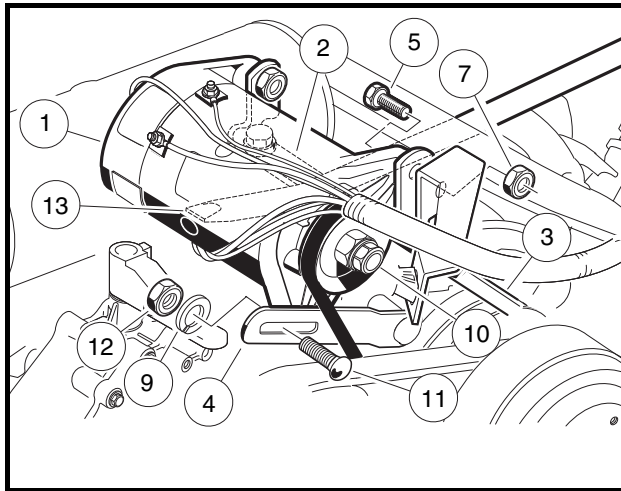
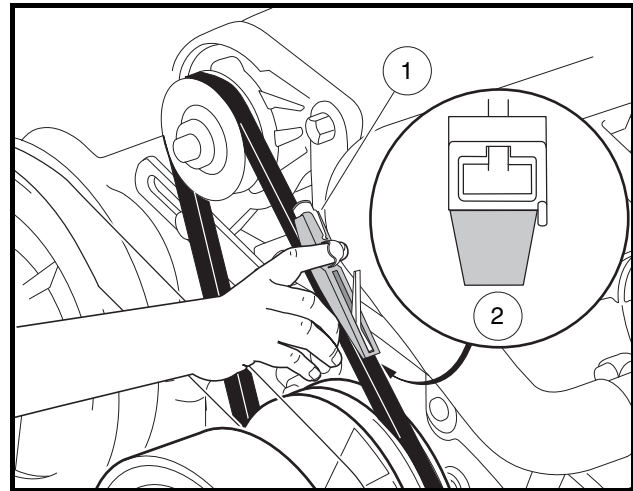

Figure 12-27 Starter/Generator Installation
Figure 12-28 Belt Tension Gauge
2. Install two 3/8-inch hex-head pivot bolts (5) into the mounting bracket with the heads of the bolts facing toward the driver-side of the vehicle. Position the starter/generator in the mounting bracket so that the bolts will go through the starter/generator before going through the bracket. Install a lock nut (7) onto each bolt. Tighten to finger tight (**Figure 12-27, Page 12-20**).
3. Install the adjustment bolt (11) through the adjusting bracket (4) and then through the starter/generator. Install a lock washer (9) and 5/16-inch nut (12) onto the end of the adjustment bolt (11). Tighten to finger tight.
4. Install the belt (3), then tighten the mounting bolts. **See Belt Tension Adjustment on page 12-20.**
3. Make sure the two pivot bolts (5) on the mounting bracket are finger tight. The carriage bolt (11) and hex nut (12) are to be finger tight also (**Figure 12-27, Page 12-20**).
4. Push the starter/generator down so it is at the lowest point of its adjustment travel. With the starter/generator belt in place around the drive clutch pulley, install the starter/generator belt (3) around the pulley (10) on the end of the starter/generator.
5. Position a pry bar (13) between the top of the starter/generator mounting bracket (2) and the underside of the starter/generator by passing the pry bar under the exhaust header.
6. While holding the pry bar, measure the belt tension using a Krikit® gauge (1) (available at NAPA® Auto Parts stores), or equivalent. Proper tension for a new starter/generator belt should be 120 lb (534 N) or 70 lb (311 N) for an existing belt (**Figure 12-28, Page 12-20**).
7. While maintaining the tension, tighten the adjustment nut (12) to 144 in-lb (16.3 N·m). Tighten the two pivot bolts (5) and hex nuts (7) to 23 ft-lb (31.2 N·m) (**Figure 12-27, Page 12-20**). **See following CAUTION.**